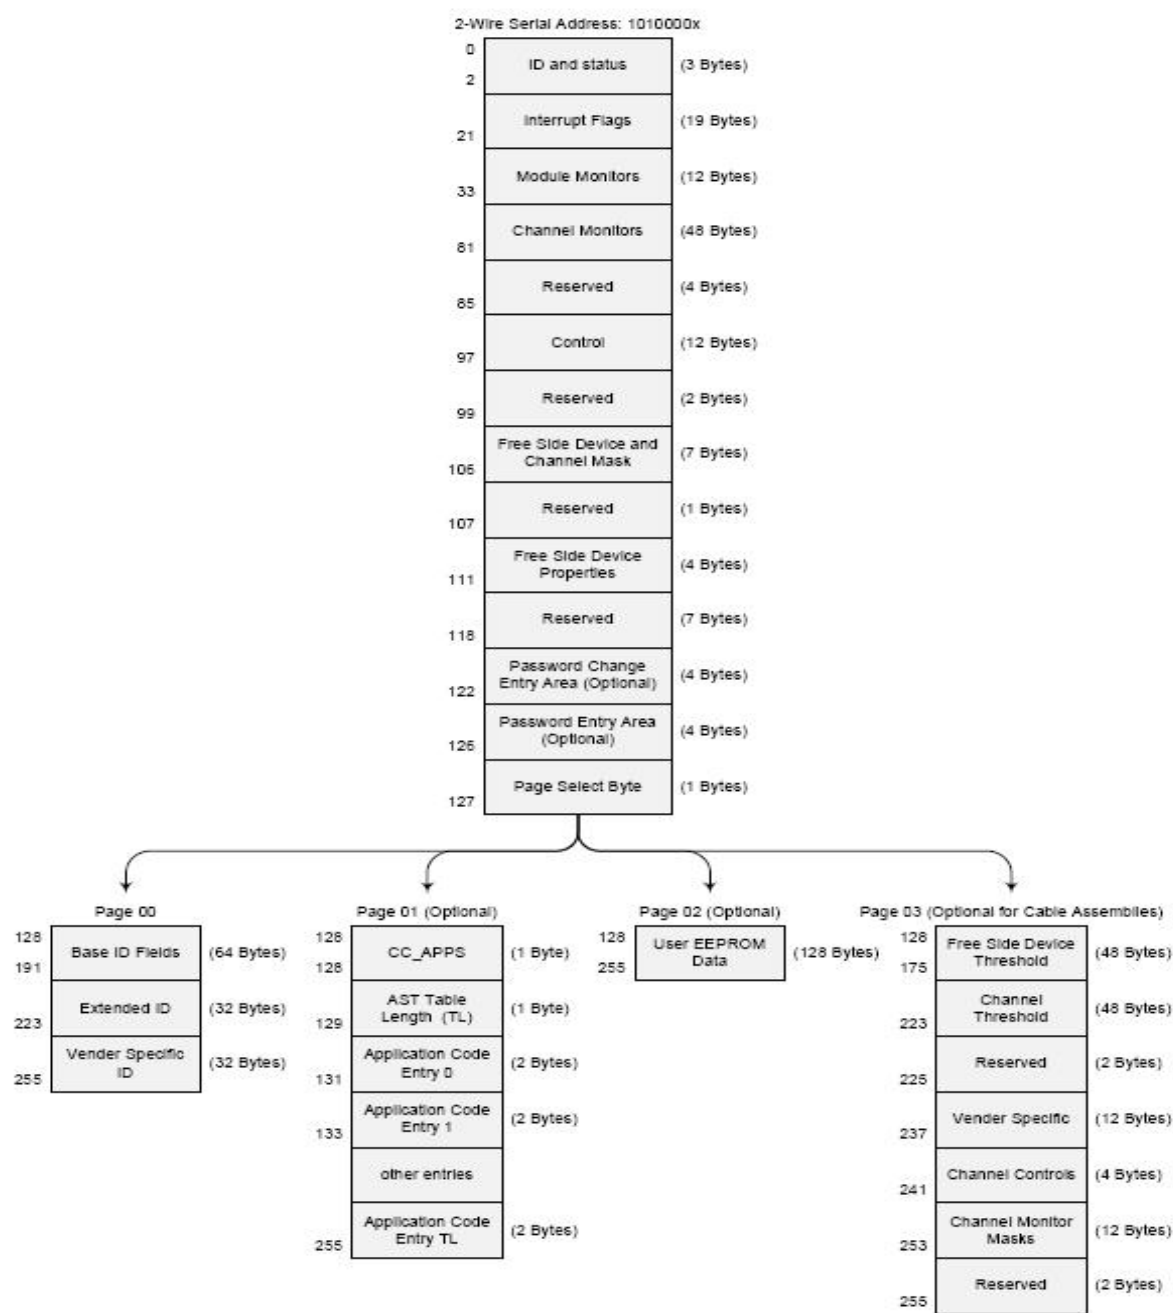

Figure5. QSFP Memory Map
1. Due to measurement accuracy of different single mode fibers, there could be an additional ±1dB fluctuation, or a ±3 dB total accuracy. Digital diagnostics monitoring function is available on all FIBERSTAMP QSFP28 CWDM4. A 2-wire serial interface provides user to contact with module. The structure of the memory is shown in Figure 5. The memory space is arranged into a lower, single page, address space of 128 bytes and multiple upper address space pages. This structure permits timely access to addresses in the lower page, such as Interrupt Flags and Monitors. Less time critical time entries, such as serial ID information and threshold settings, are available with the Page Select function. The interface address used is A0xh and is mainly used for time critical data like interrupt handling in order to enable a one-time-read for all data related to an interrupt situation. After an interrupt, IntL, has been asserted, the host can read out the flag field to determine the affected channel and type of flag.